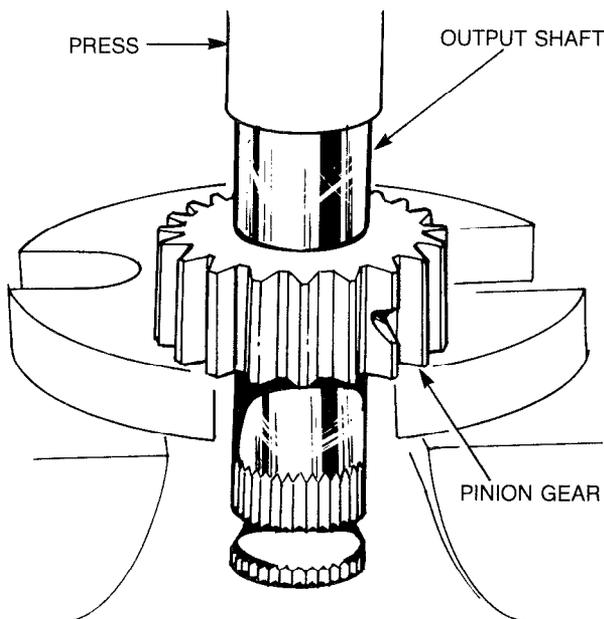

Figure 279 — Pinion Gear — Removal
- x. Press the pinion gear off the output shaft as shown in Fig. 279.